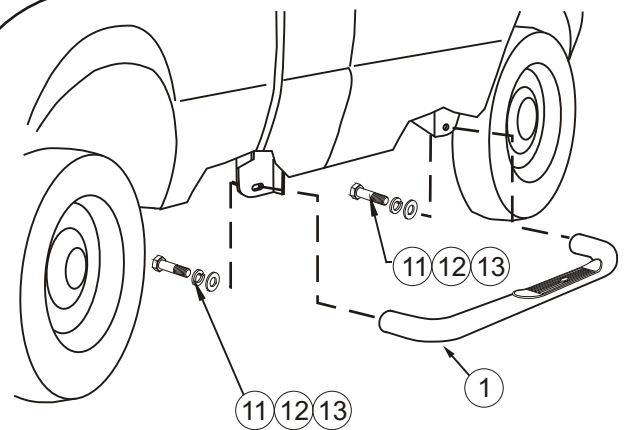

FIGURE 6
- STEP 5. Attach step bars to brackets using 1/2" fasteners as shown. **SEE FIGURE 6.**